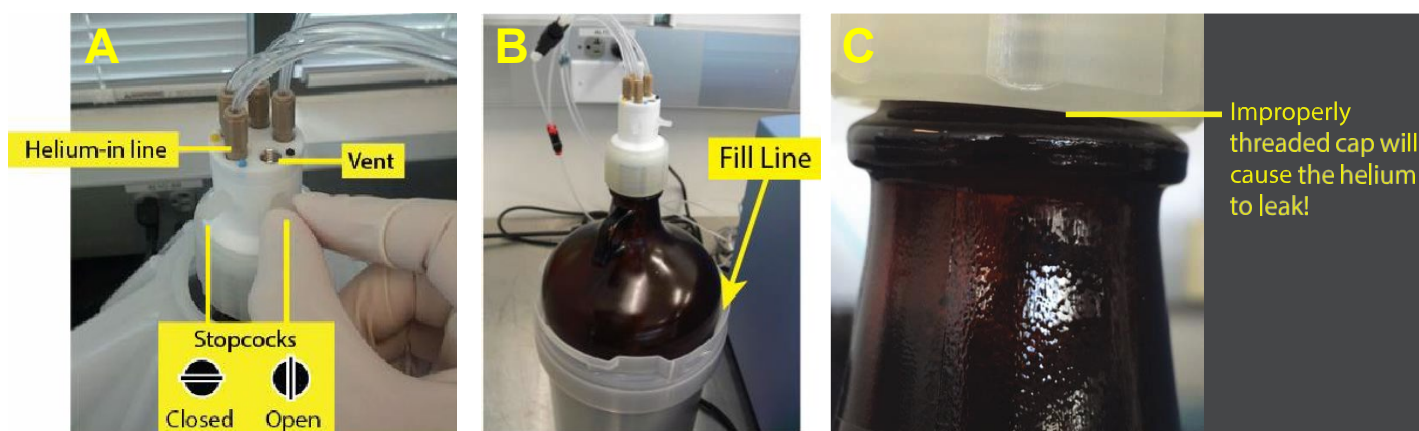

Figure 4. Filling the pressure reservoir. Panel A. Close the helium in-line stopcock and open the vent stopcock.
- Add deionized water (e.g., Milli-Q water) to the reservoir as indicated in the following steps, and in Figure 4 (below):